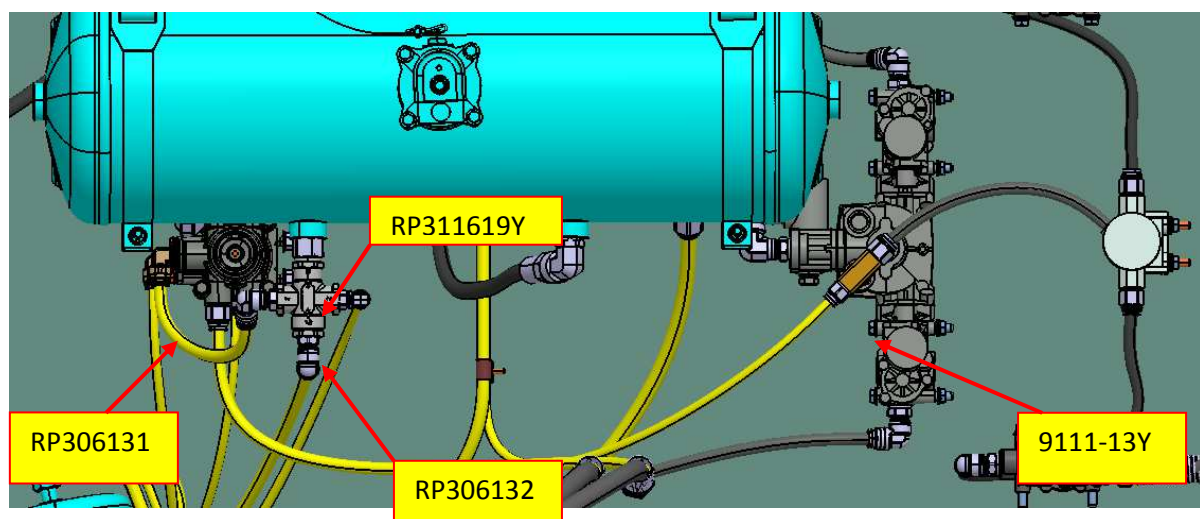

Figure-11 (Bottom View)
*Install the fitting with part number RP311619Y on to the air reservoir port shown in Figure-11
*Install the pre-assembled double check valve and fittings as shown in Figure-11 (Part number: RP311619Y)